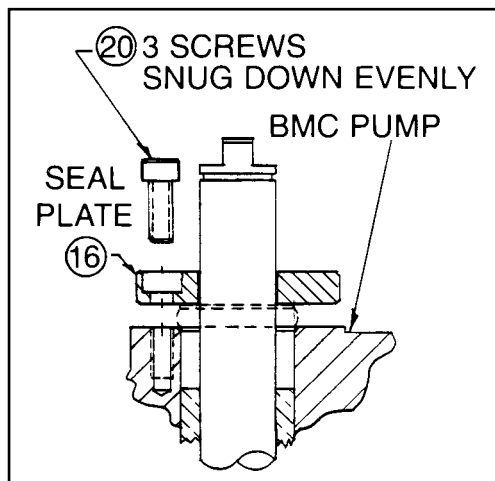

Figure 9
- 17) Once the Seal is installed onto the Drive Shaft, place the Seal Plate (16) into position as shown in *Figure 9*.
- 18) Install the three Seal Plate Screws (20) and tighten evenly to draw the Lip Seal into the pump body, being careful not to cock the seal or damage it in any way. See *Figure 9*.
- 19) Torque the three Seal Plate Screws (20) to 50 lbs.-in.
- 20) Reinstall Outer Drive Gear (2) with relieved side upward. Replace External Locking Retaining Ring (30) onto Drive Shaft (8).
- 21) Install Drive Strap (31) and Drive Strap Screws (32).